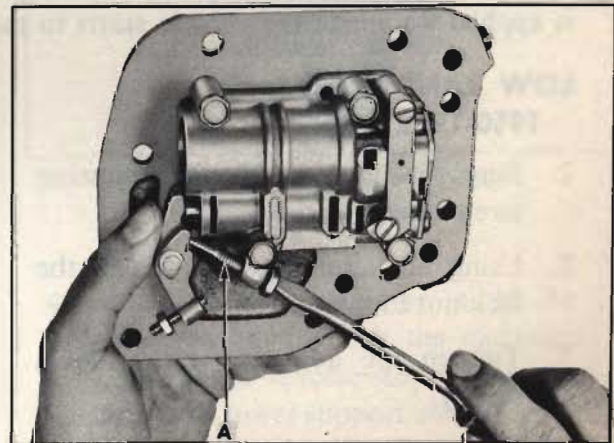

Fig. 11. Setting (1) of throttle valve inner lever adjustment
1. Rotate the inner lever until it just contacts the detent valve. With the lever held in this position, turn adjusting screw "A" (Fig. 11) until it just touches the flat surface of the step in the lever. Back the adjusting screw off one complete turn and tighten the lock nut.